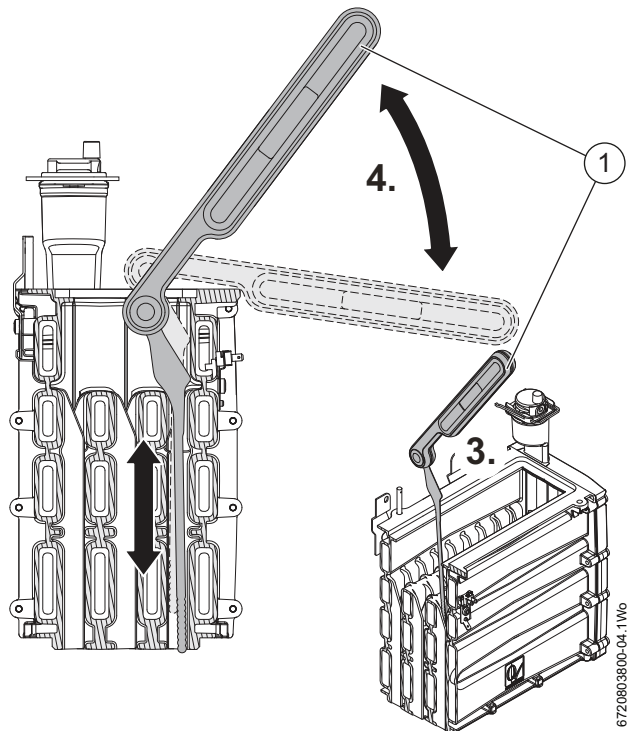

Fig. 76 Cleaning the front channels
3. Orient the cleaning tool (2) as shown in figure 76 and insert the tool into the front channel for cleaning.